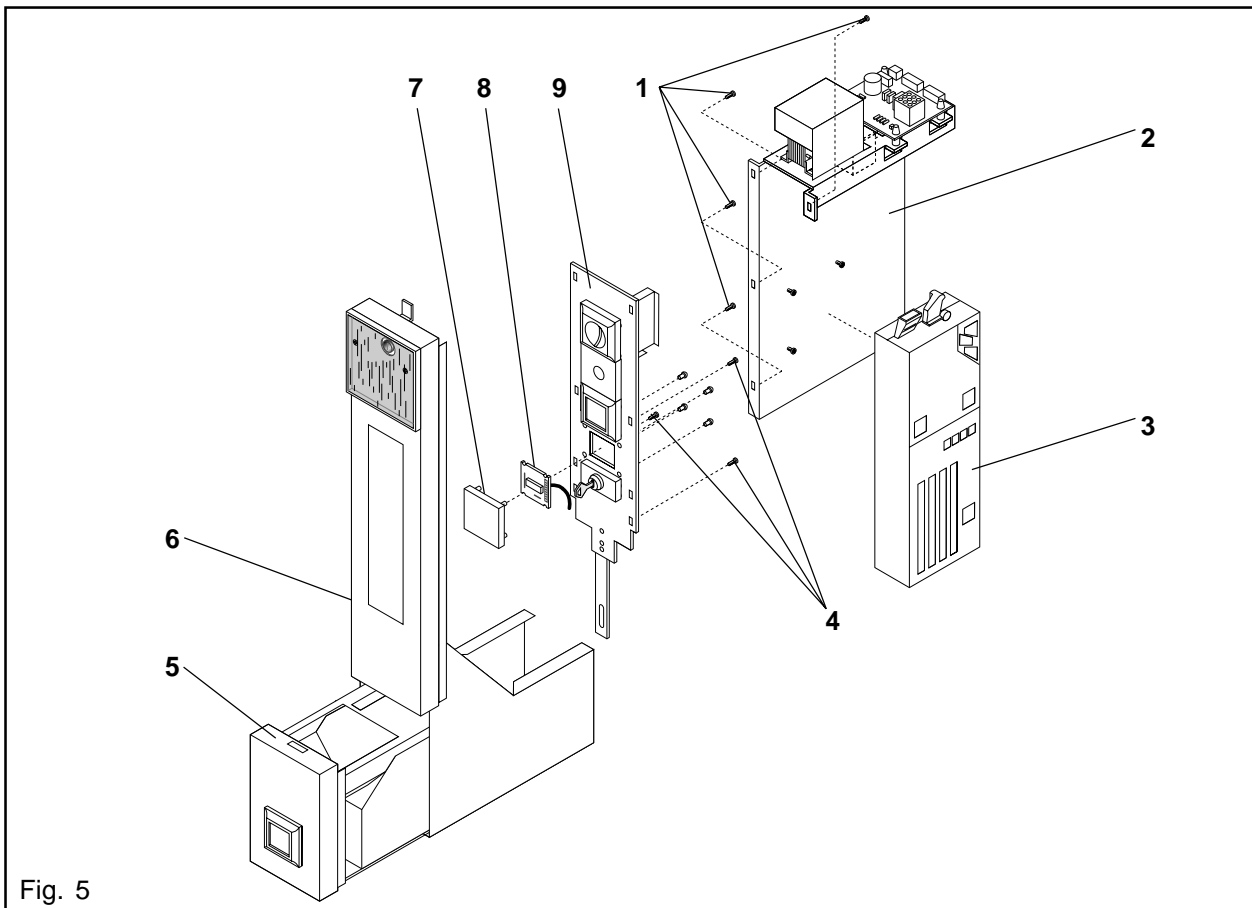

Fig. 5
- Remove the front insert (6) from the housing for the coin module.
- Separate the connection of the coin module (3) and remove the coin module.
- Remove the cash-box (5) if necessary.
- Remove the mounting panel (2) [4 screws (1)].
- Remove the console (9) [3 screws (4)].
- Remove 4 rivets from the fastening pins of the trim plate (7).
- Place the credit display (8) onto the console and fasten it with the red module (7). (Fig. 5)